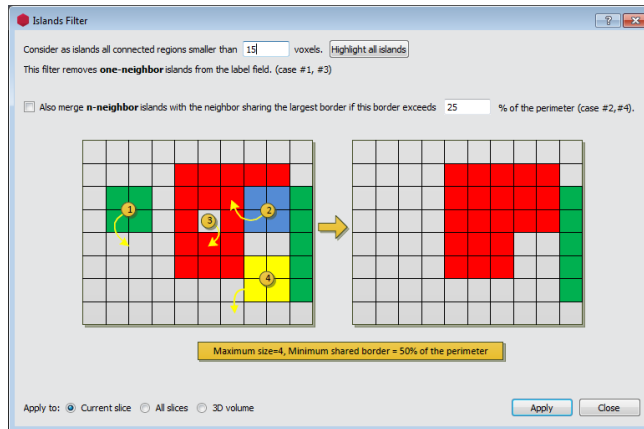

Figure 7.7: Islands filter dialog.
- In the *Segmentation* menu, select *Remove islands...* (see Figure 7.7).